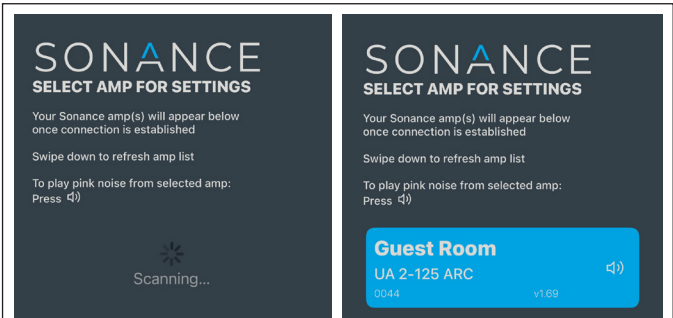

Figure 1: Connecting the Amplifier
- 4. When multiple amplifiers are displayed on the page, pressing the sound icon in the blue amp tile will send pink noise signal to the amplifier to help identify (see Figure 1).